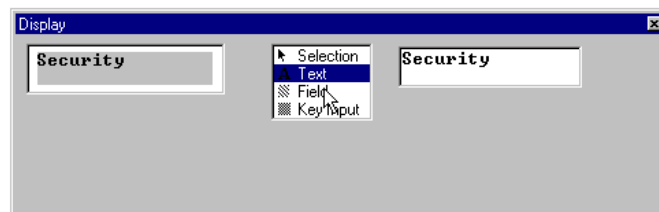

Figure 2-44 Display - Security Displayed
3. Press <Enter>; **Security** appears in the display area (Figure 2-44).